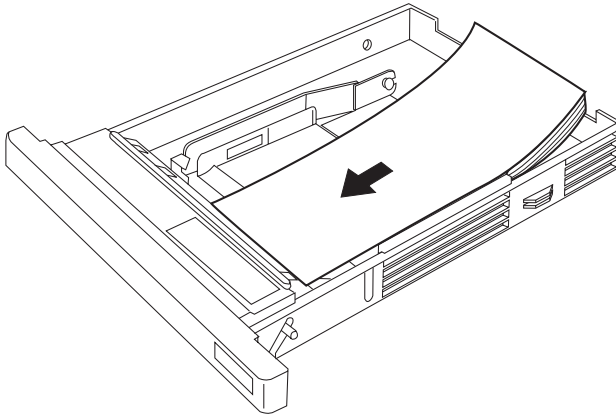

Fig. 2.7 *Load Envelopes in Tray*
Printing on Envelopes Envelopes may be printed from either the standard tray or the optional envelope cassette. If you use the standard tray, feed only one envelope at a time. If you use the envelope cassette, load envelopes as shown in figure 2.7, that is, face down with flap-side of the envelope toward the control panel side of the printer.
2. Load the envelopes (address side up/flap side down) with the corner of the stack set into the corner of the tray as shown (fig. 2.7).